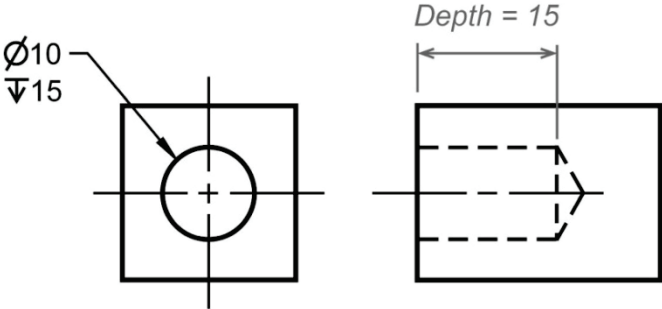

Figure 7.4-2: Dimensioning a blind hole.
b) The depth (∇) of a blind hole is specified under the hole’s diameter dimension and is the depth of the full diameter from the surface of the object. Figure 7.4-2 illustrates how a dimension for a blind hole (i.e. a hole that does not pass completely through the object) is given.